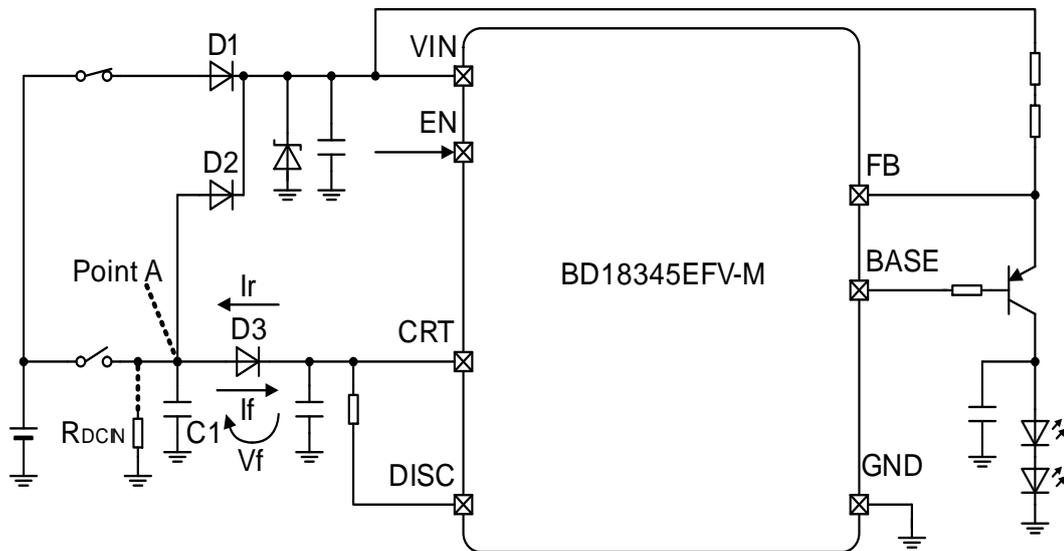

Figure 18. How Reverse Protection Diode Affects the CRT Pin Ramp Up/Down Time
- ① During the PWM dimming operation mode, Point A on Figure 18 is Hi-Z.
- ② Reverse current  $I_r$  of D2 and D3 goes to Point A.